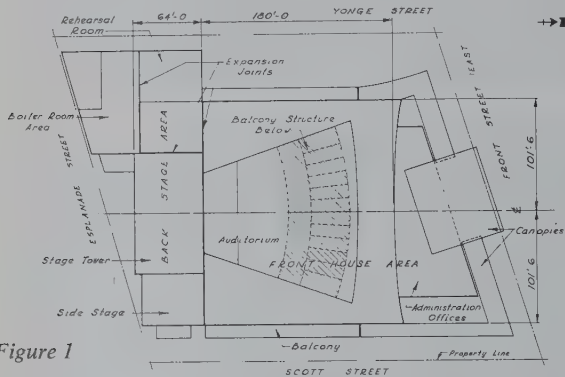

Figure 1
Structurally, the building is divided into three parts: (1) the front house area containing the auditorium proper; (2) the backstage area consisting of the stage tower, the west wing for dressing and rehearsal rooms, and the side stage to the east; and (3) the boiler room area, located to the southwest of the backstage area. (See figures 1 & 2).